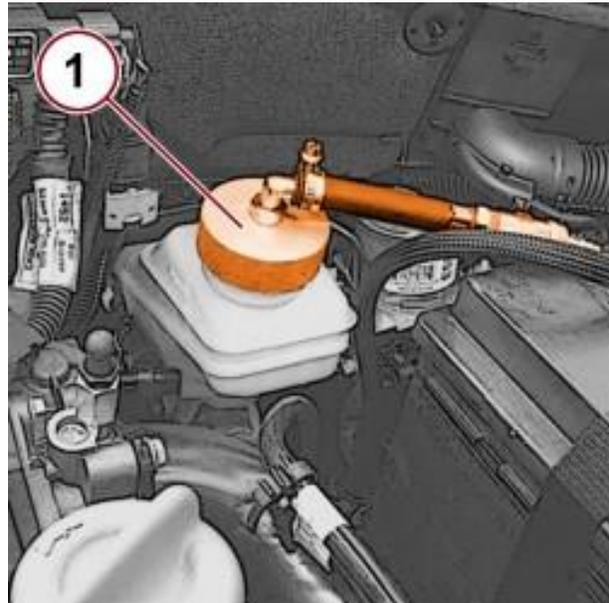

Figure 16 – ABS Bracket Assembly
22. Connect suitable brake bleeding equipment (1) to the brake-clutch fluid reservoir (Figure 16).